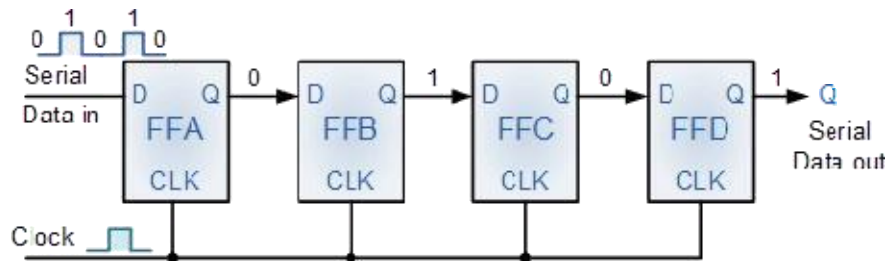

Fig 8.15: 4- bit SISO
The SISO shift register (fig 8.15) is one of the simplest of the four configurations as it has only three connections, the serial input (SI) which determines what enters the left hand flip-flop, the serial output (SO) which is taken from the output of the right hand flip-flop and the